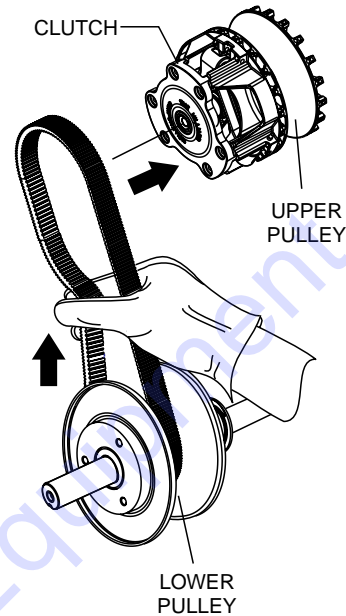

Figure 28. Upper Pulley Belt Installation
2. Place free end of CVT belt (Figure 28) into upper pulley grooves.